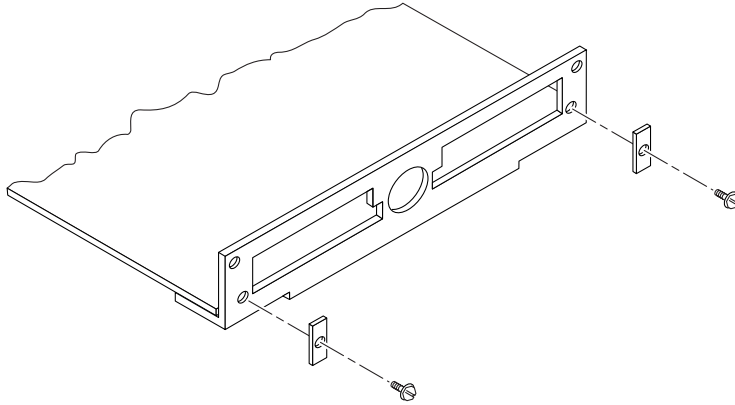

FIGURE 2-2 EMI Adapter Plates to FDDI Adapter
8. When the card is firmly in place, use the two special screws and EMI plates provided to attach the card backplate as shown in FIGURE 2-2.